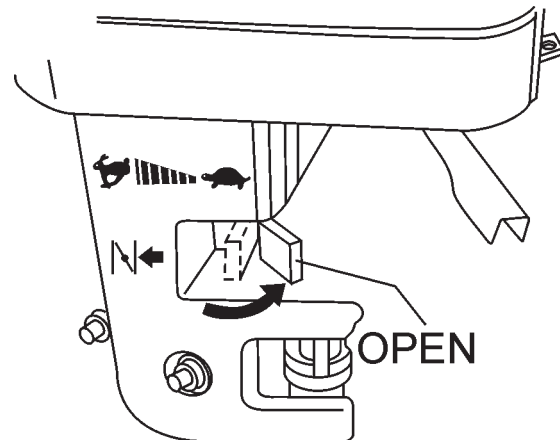

Figure 10. Engine Choke Lever (Open)
4. Place the *choke lever* (Figure 10) in the "OPEN" position if starting a *warm engine* or the *temperature is warm*.